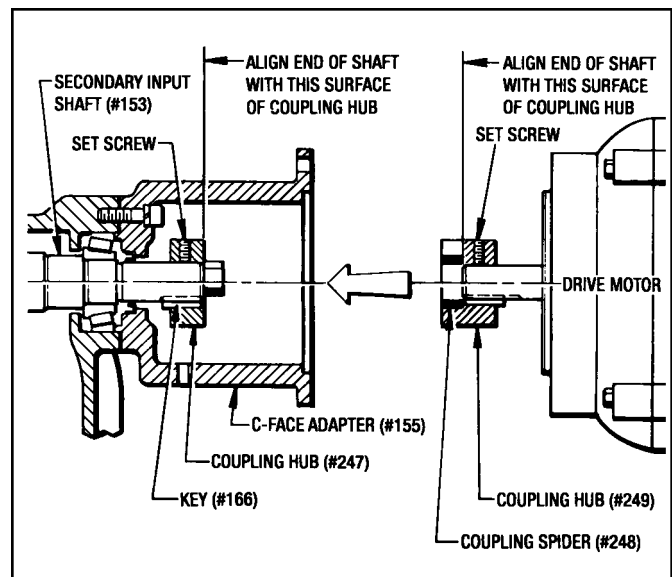

Figure 9.11 - Installing C-Face Motor With Coupling
9-15 ATTACHING C-FACE MOUNTED SECONDARY CLUTCH DRIVE MOTORS WITH COUPLING (See Figures 9.11 and 10.7)
1. Install Coupling Hub (#247) onto the Secondary Input Shaft (#153) and the other Coupling Hub (#249) onto the Drive Motor Shaft as shown in Figure 9.11. Tighten with set screws when properly positioned. Slip the Coupling Spider (#248) into one of the Couplings. Carefully align the two Coupling Hubs together and attach the Drive Motor with (4) Screws (#262) and (4) Washers (#265).